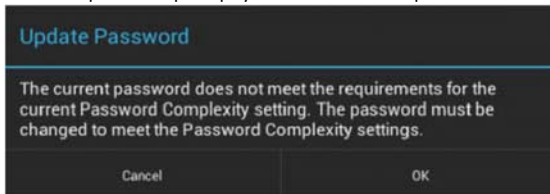

FIG. 97 Update Password dialog
3. The panel will prompt you to create a new password that meets the minimum complexity requirements for High Security mode (FIG. 97): .